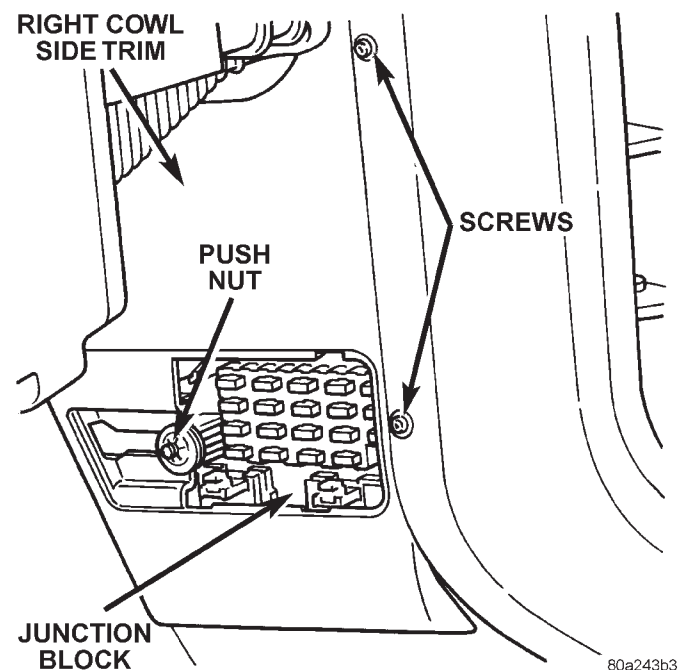

Fig. 4 Right Cowl Side Trim Panel Remove/Install
(1) Disconnect and isolate the battery negative cable.
(2) Remove the fuse access panel by unsnapping it from the right cowl side trim panel.
(3) Remove the push nut that secures the right cowl side trim to the junction block stud (Fig. 4).